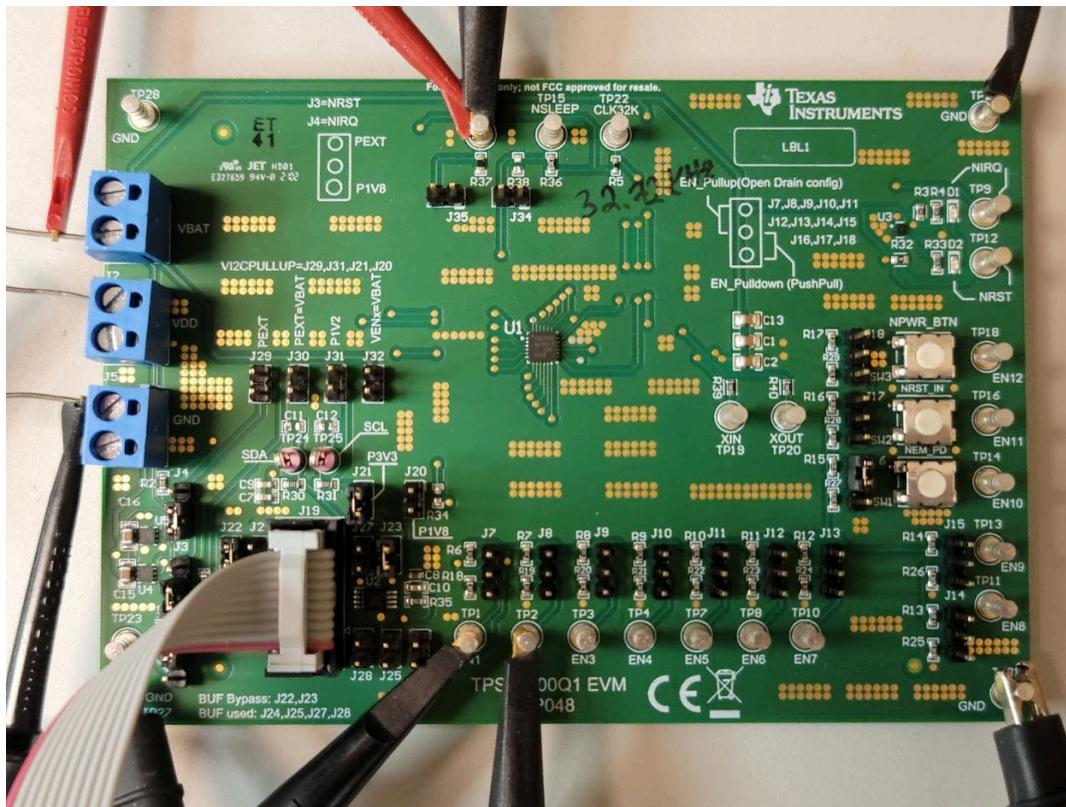

Figure 4-1. EVM Connections for Testing EN1 and EN2
9. Final connections should look similar to Figure 4-1.